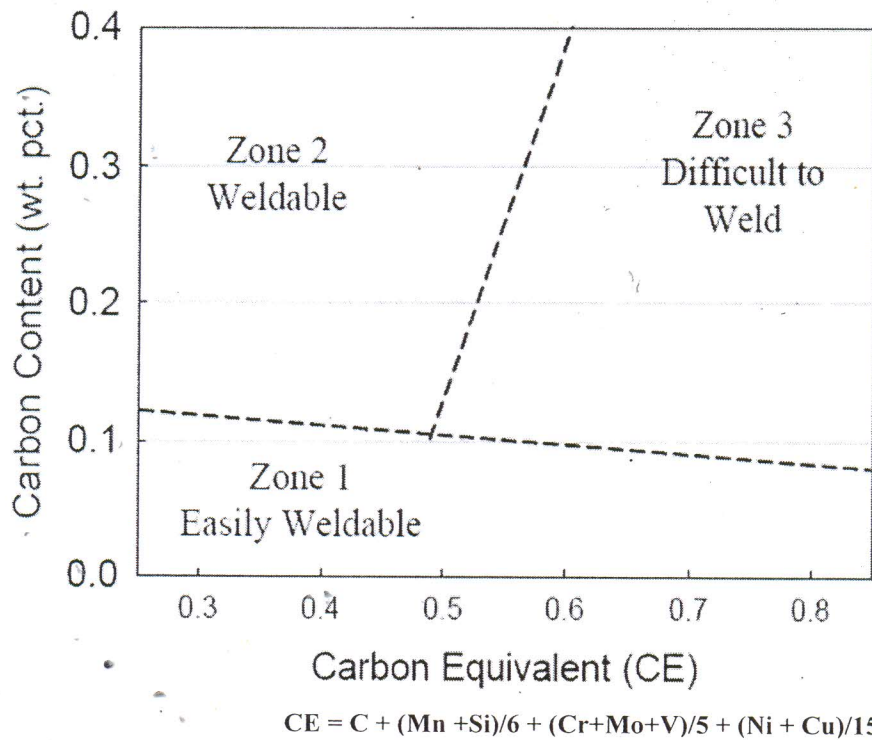

Figure 1: Graville Diagram
- (c) Use Graville diagram (Figure 1) to predict HAZ condition that may obtain after welded for materials in question (b) and how to control.